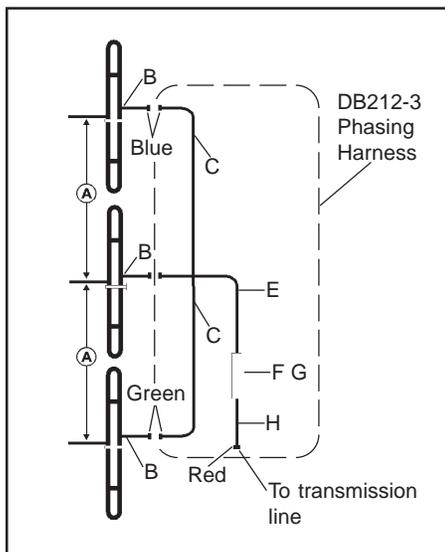

Figure 8 - DB212-3
Installing the DB212-3 (refer to Figure 8):
5. Connect the phasing harness (see Figure 8) to the three dipoles; be sure to match the color codes. Make all connections snug but do not apply heavy force with pliers. This should leave the phasing harness transformer (color coded red) open for connection to the station transmission line.